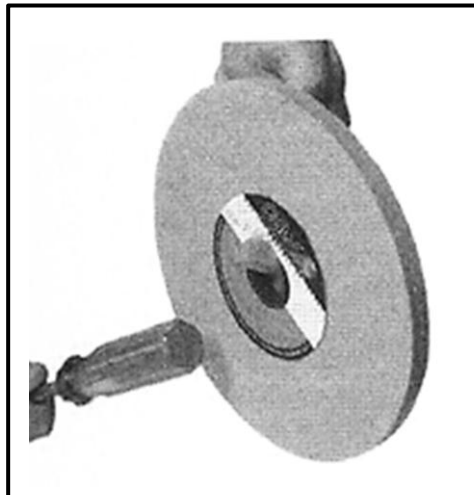

**FIGURE 4.9**
4.9 Identify the type of machine is shown in FIGURE 4.9 below: